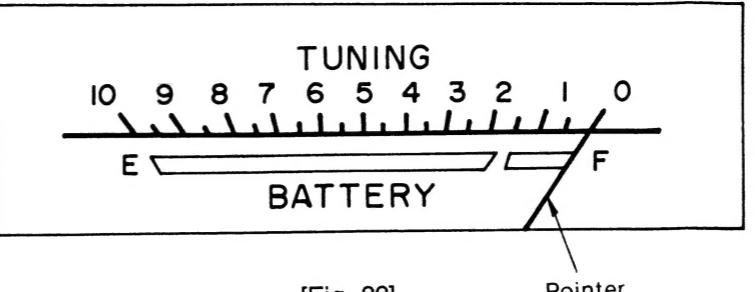

Fig. 22]
- Adjust VR101 so that the pointer of meter says as shown in figure. 22.
[Fig. 22]